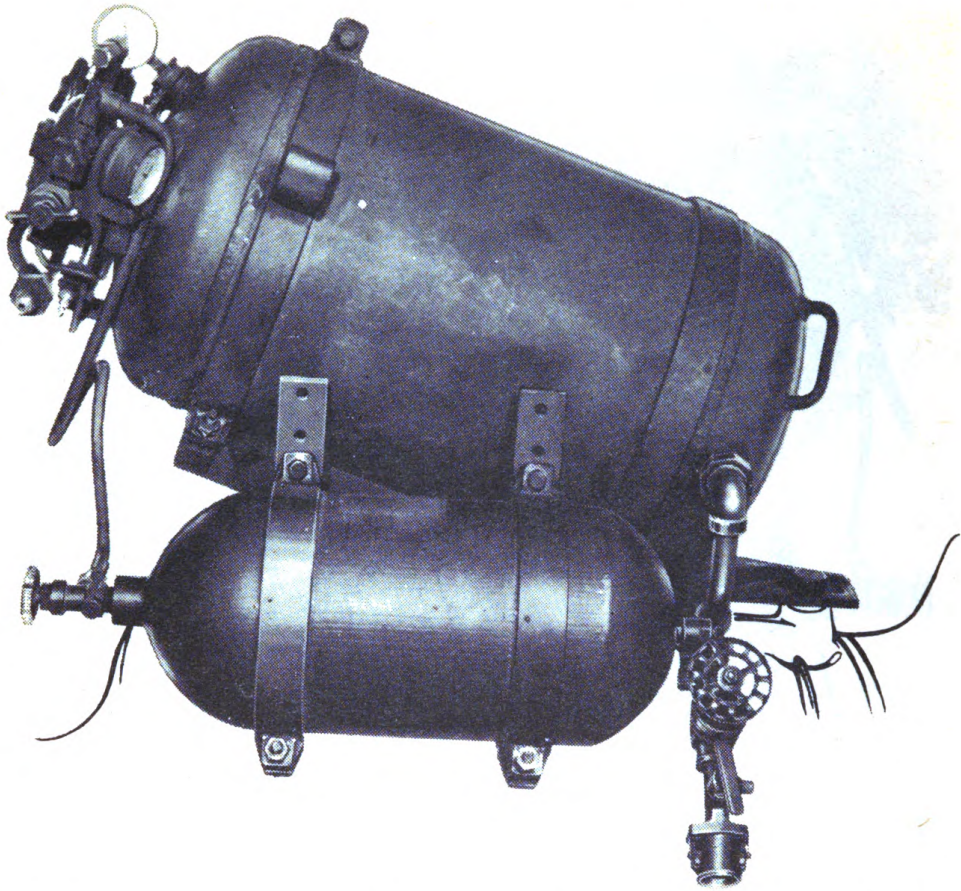

Fig. 36. Pressure system and fuel outlet piping installed on transmission fuel group.
g. Fuel outlet piping. (1) Remove half union protector from fuel container outlet and remove thread protector cap from fuel outlet piping. Attach fuel outlet piping to fuel container (fig. 36) by engaging nut on half union at fuel container with male half angle union at fuel outlet piping.
(2) Attach fuel line clamp and clamp fillers (shims) to angle bracket (bolted to baseplate) by inserting screws through holes in clamp, fillers, and tapped holes in block on bracket. Tighten screws with screw driver.
(3) Tighten union between fuel outlet piping and fuel container, using wrench on nut and on half union at fuel container.
j. Bleed hose. (1) Screw nut on end of bleed hose to the fitting at top of bleed valve.